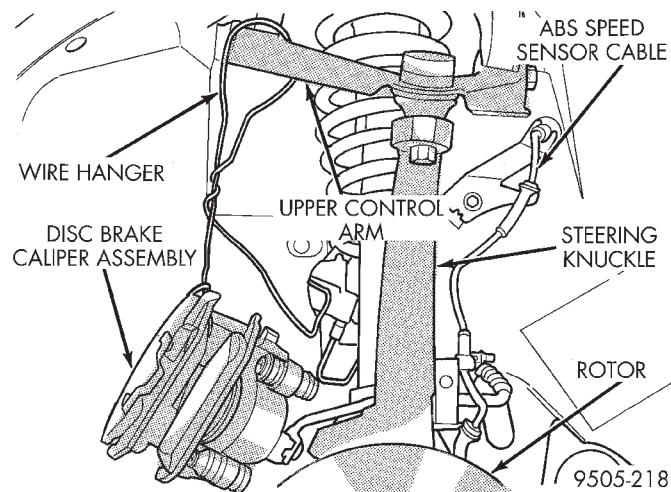

Fig. 6 Correctly Supported Brake Caliper
(7) Support brake caliper/adapter assembly using a wire hook (Fig. 6). **Do not support assembly by the brake flex hose.**